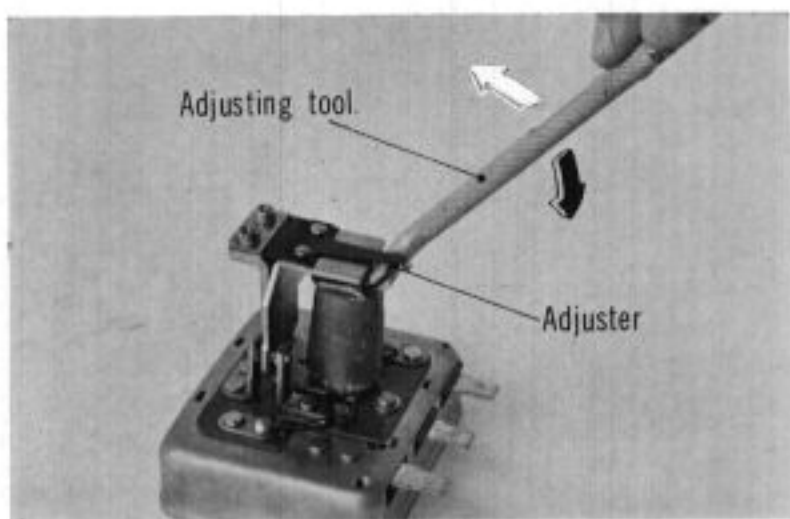

Fig. 2M-18
6. If no-load voltage is lower than the rated voltage (13.5V), bend the adjuster upward and regulate it to the rated value. (Fig. 2M-18)
7. If no-load voltage is higher than the rated voltage of 14.5V, conversely, lower the adjuster and regulate it to the rated value. (Fig. 2M-18)